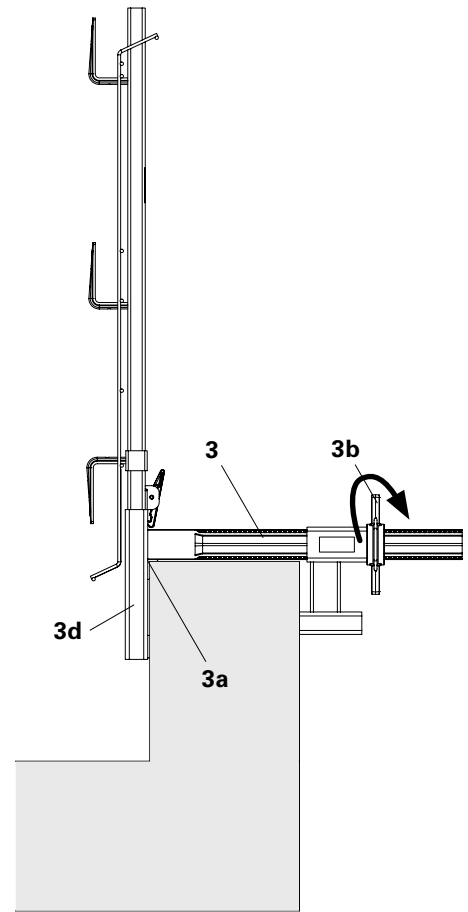

Fig. A2.07
- Parapet: rectangular tube (**3d**), (Fig. A2.07)